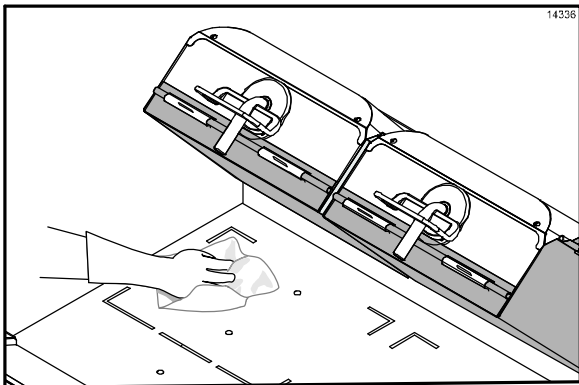

Figure 62
35. Wipe the lower grill surface with a clean, sanitizer-soaked grill cloth. Repeat until surface is clean. (See Figure 62.)